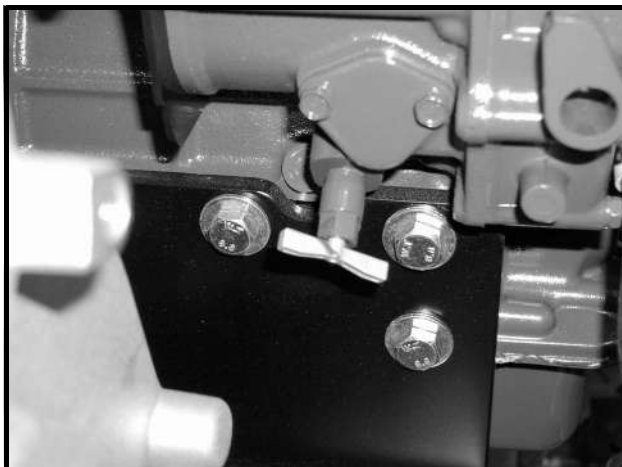

Figure 15-1 Engine Block Coolant Drain Valve
6. Turn the drain valve on the engine counterclockwise to drain coolant from the engine (**Figure 15-1, Page 15-2**).